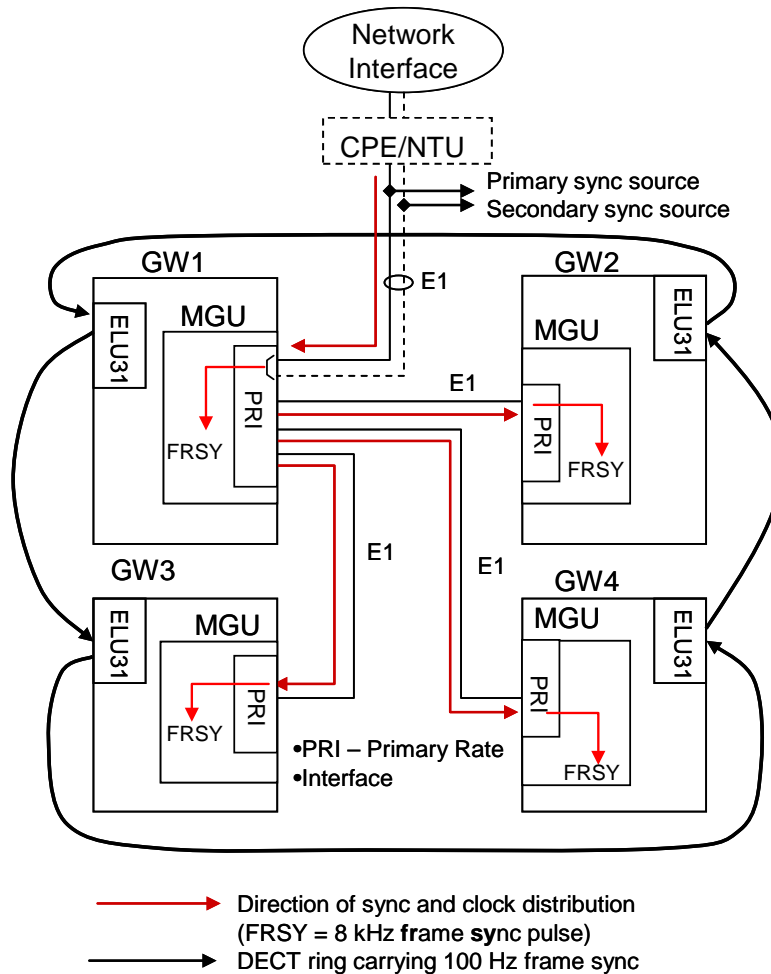

Figure 2
- In figure 2 the GW1 is connected to the reference timing (via CPE/NTU if used) and receives the network timing. The other GWs (2 – 4) get system synch from MGW 1 via E1 tie-lines. (Each MGU has 8 E1 ports).